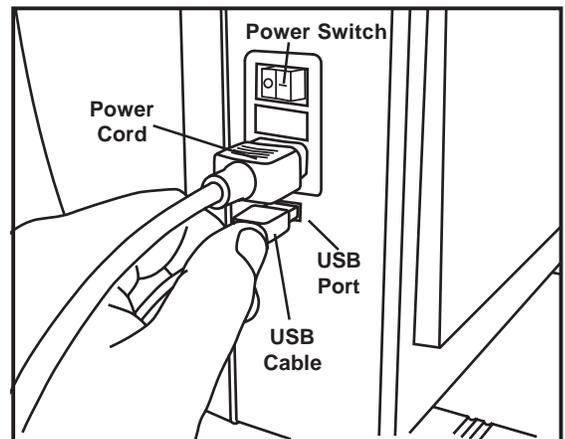

Figure 6
4. Place the power switch on the side of unit in the OFF position (fig. 6).
6. Plug the power cord into the connector located below the power switch (fig. 6). Attach the other end to a properly grounded outlet.
7. Plug the USB cable into the USB port on the Skin Scanner (fig. 6). Attach the other end to the USB port on your computer.
8. Press the power switch to turn the Skin Scanner on (fig. 6). The internal cooling fan will start and the long-wave ultraviolet lights will illuminate.